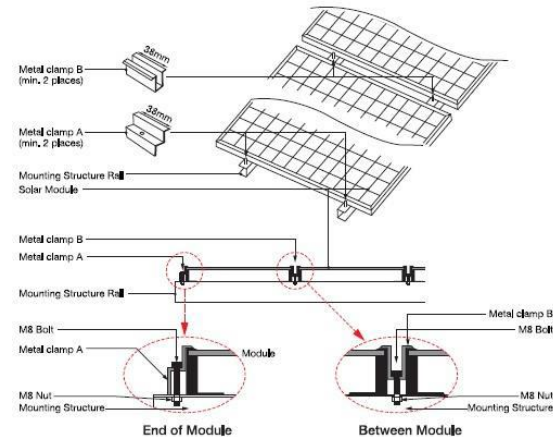

Figure 2. Mounting using clamps.
- If module clamps are used to secure the module, the torque on the clamp bolt has to be in range of 8-10 Nm (Figure 2).